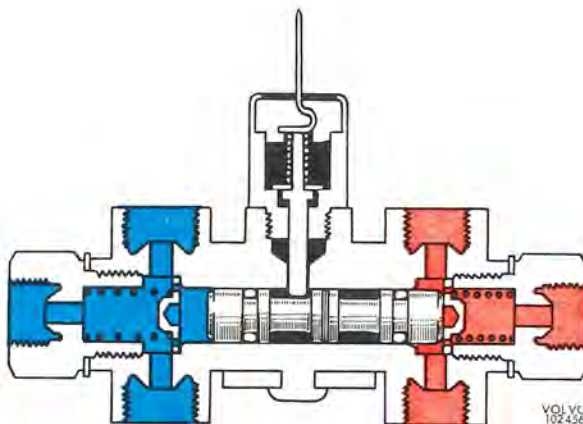

Fig. 5-40. Warning position
It is only when the pressure in the secondary circuit first exceeds that in the primary circuit by about 10 k_p/cm² (142 psi) that the pistons are pushed so far to the right that the guide pin (4) can be pressed downwards. When this happens, the switch washer (2) reaches the housing (3) and current cuts in (Fig. 5-40). The guide pin is prevented from returning to its normal position until the fault has been rectified and the switch housing (3) screwed out.